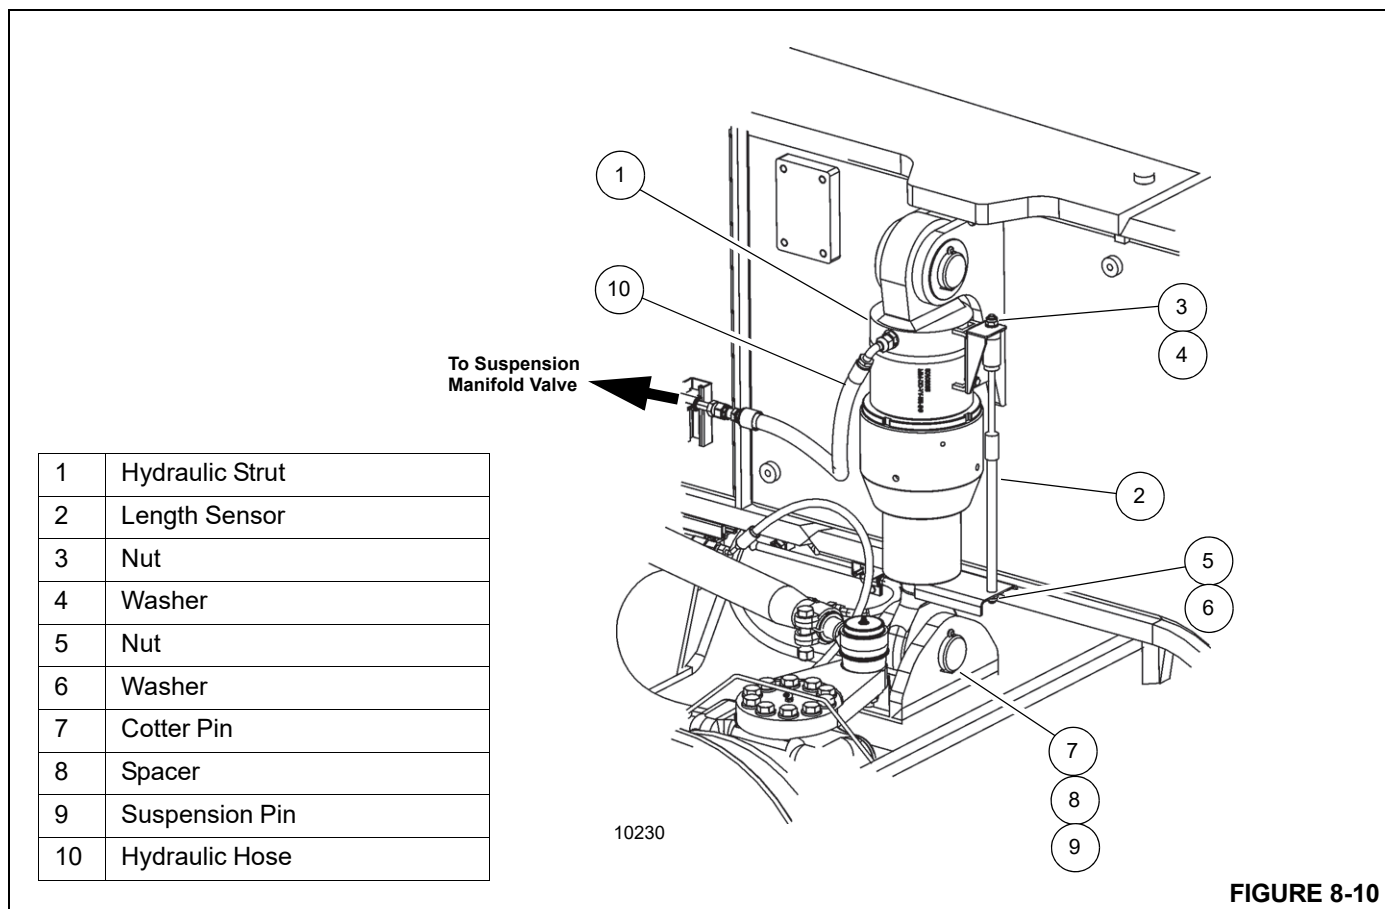

FIGURE 8-10
The rear axle oscillation and height adjustment system Figure 8-10 and consists of four hydraulic struts (two per axle), suspension valve, and on two of the struts, length sensors. The main carrier manifold controls the flow of the hydraulic oil to the suspension valve. The suspension manifold features oscillation lockout solenoids. For more information about the suspension valve, see *Suspension Manifold Valve*, page 2-28.
3. Remove the hydraulic hose (10, Figure 8-10). Cap the hydraulic hose (10).
4. Remove nut (3) and washer (4) from the top length sensor bracket.
5. Remove nut (5), washer (6), and length sensor (2) from bottom length sensor bracket.